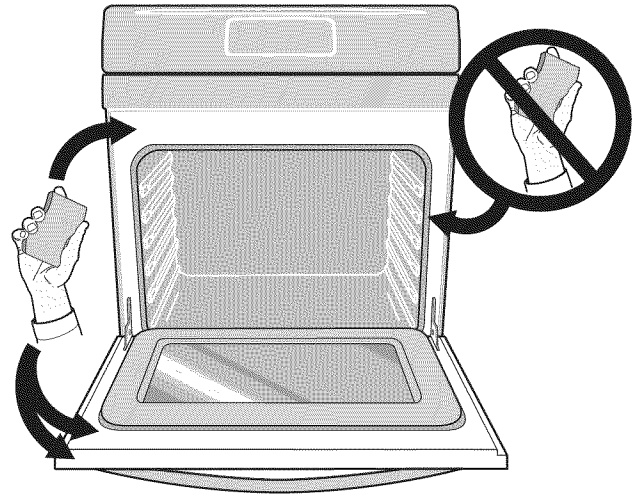

Figure 48: Oven door area to clean and not clean (gasket).
- Clean any soil from the oven frame, the door liner outside the oven door gasket and the small area at the front center of the oven bottom (Figure 48). These areas heat sufficiently to burn soil on. Clean using soap and water prior to starting Self Clean.
- Do not clean the oven door gasket (Figure 48). The woven material of the oven door gasket is essential for a good seal. Care should be taken not to rub, damage or remove the gasket. Do not use any cleaning materials on the oven door gasket. Doing so could cause damage to the door gasket.